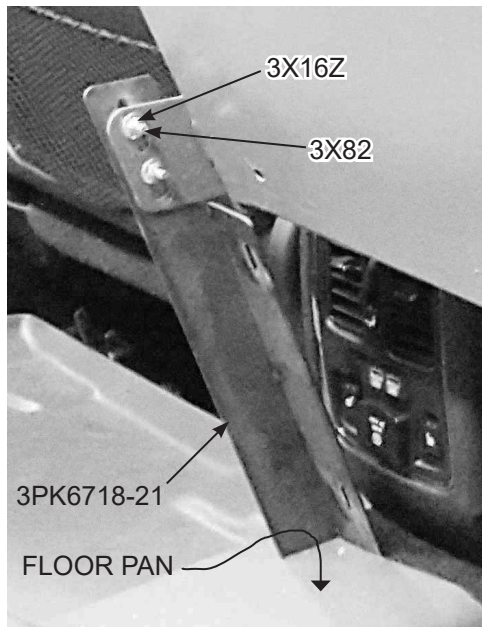

Fig. 4
- B. With one person holding the partition level, fasten the center bracket (3PK6718-21) to the partition and tighten bolts and nuts. (Fig. 4)
- C. Check that the partition is level, adjust where necessary, then tighten all loose screws on the mounting plate and center bracket. (Fig. 4)